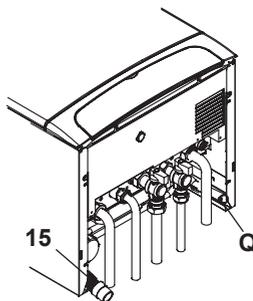

Fig. 6.4
- Connect the pipe Q (Fig. 6.4) from the pressure relief valve to the safety dis-
- Fit the condensate drain 15 (Fig. 6.4) in the air brake connected to the drainage pipework. See also section "Condensate drain" to page 31.